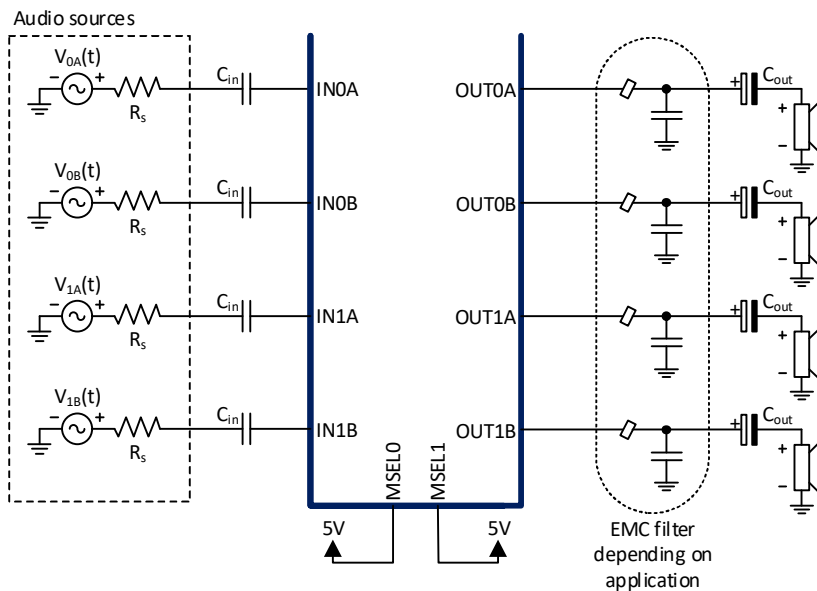

Figure 9-3 Four channel, single ended (SE) configuration
In single ended (SE) configuration, the MA12040 is able to drive one loudspeaker per output power stage, i.e. up to four loudspeakers. The output is biased to half the power supply voltage, $\frac{1}{2} PVDD$. One of the solutions to drive a speaker in this configuration is to use AC-coupling capacitors (C_{out}) in series with the load, as shown in Figure 9-3. The value of the capacitors depends on the load resistance and the desired audio bandwidth.